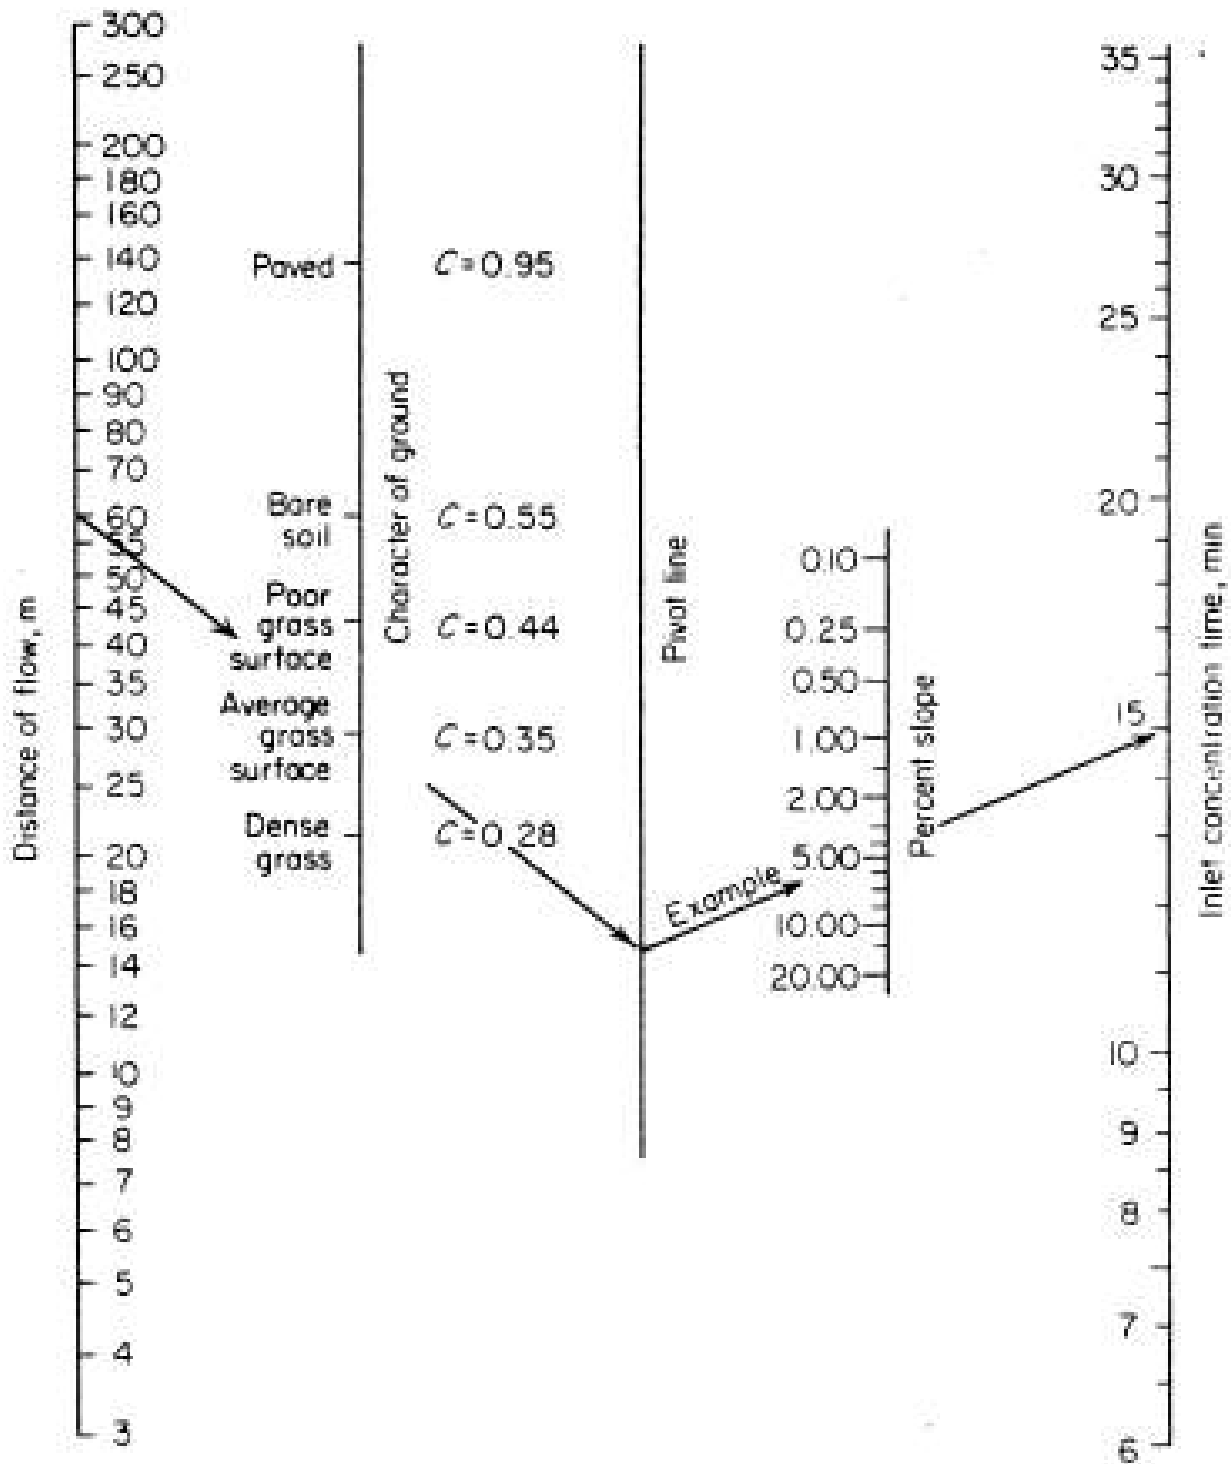

Fig. 13-3 Overland flow time.
*Inlet time ( $t_i$ ):* Time required for rainwater to flow from the most remote distance in the catchment area to reach the collecting point and produce the maximum discharge, from figure 13.3 page 325.
From Fig. 13-3, with distance = 60 m,  $C = 0.35$ , Slope = 4%, find the inlet time = 15 minute = time of concentration due to flow time = 0.